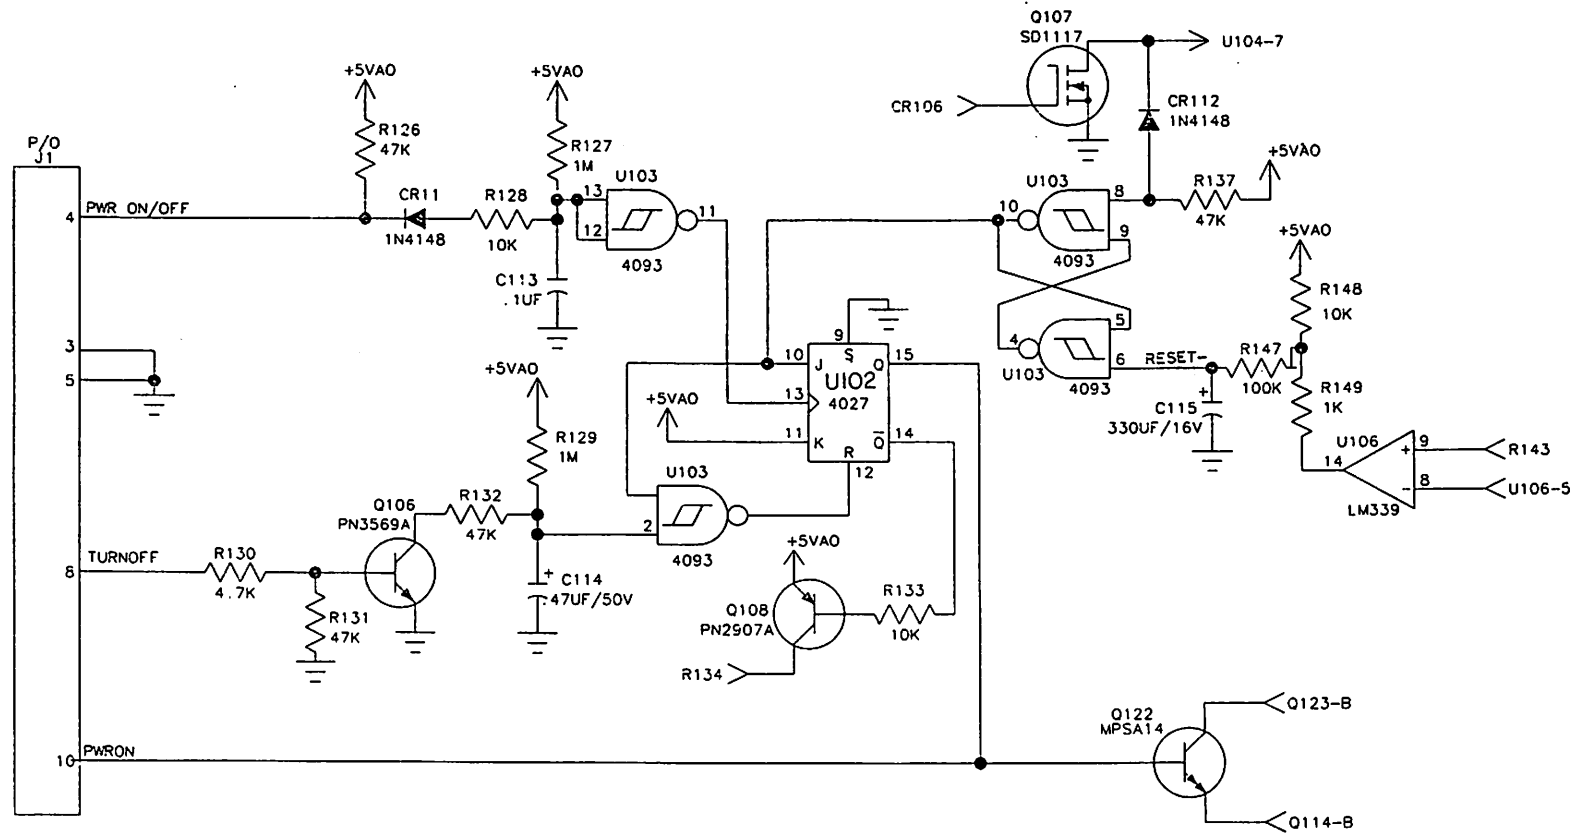

Figure 3-28. Power ON/OFF Control
The battery condition is monitored by three comparators, U106 pins 1, 2, and 14. VR101 provides a reference voltage to the comparators. If the battery voltage drops below 11.6 volts, the voltage at the junction of R145 and R146 will drop below the reference voltage resulting in U106 pin 1 going HI, and U104 pin 4 going LO. Similarly, if the battery drops below 11.5 volts, the voltage at the junction of R144 and R145 will drop below the reference voltage causing U106 pin 2 to go HI and U104 pin 2 to go LO. The signals from U104 pins 2 and 4 are monitored by the CPU through port U40 on the logic/analog board. If the voltage drops below 11.4 volts, the voltage at the junction of R143 and R144 will drop below the reference voltage. This causes U106 pin 14 to go LO, discharging C115, setting flip-flop U103 pins 4 and 10, disabling the instrument (figure 3-28).
3.9.6 Power On/Off Control (figure 3-28)